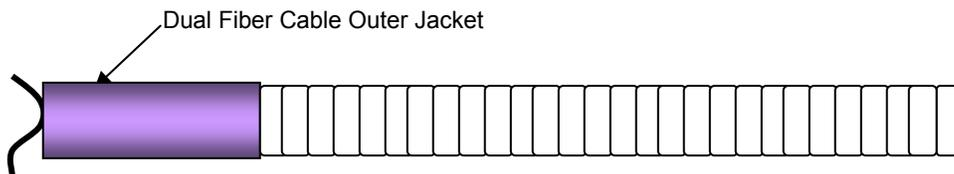

Figure 7-10 – Removing the Dual Fiber Outer Cable Jacket
Step 2 - Carefully cut and remove the dual fiber cable outer jacket back to the mark using hot tweezers. See Figure 7-10.